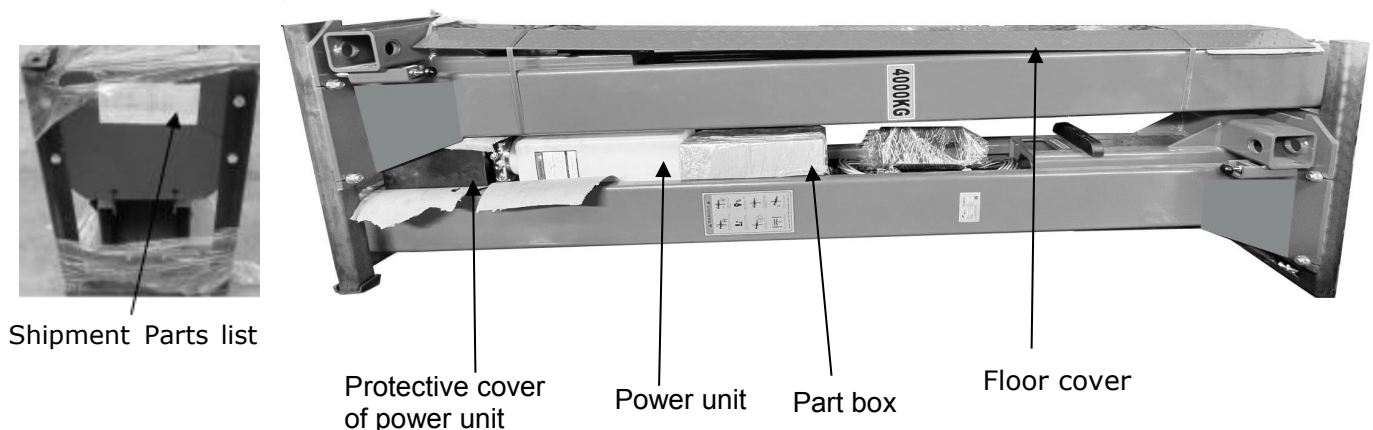

Fig. 10
2. Move the lift aside with forklift or hoist, and open the outer packing carefully, take off the parts from upper and inside the column, take out the parts box, check the parts according to the shipment parts list(See Fig. 10)